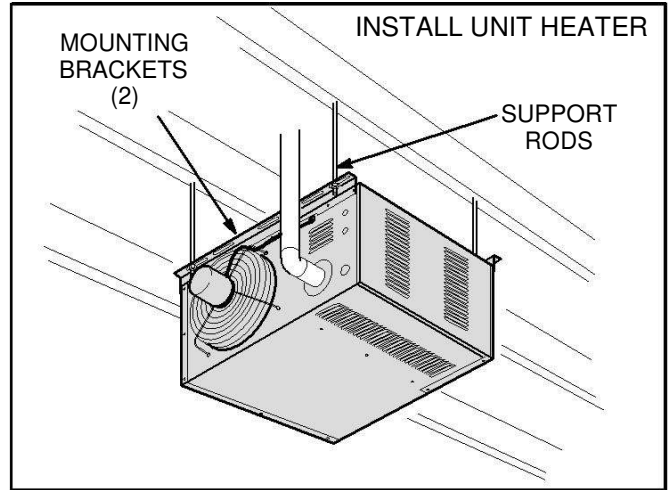

FIGURE 1
Unit is shipped ready for installation. Unit may be installed as shown in figure 1 or rotated 180° depending on desired location as governed by clearances, vent connection, air direction, gas supply, electrical supply and service accessibility.
- 5 – To support unit, secure mounting bracket to ceiling joist or truss. Unit may also be supported using support rods as shown in figure 1.